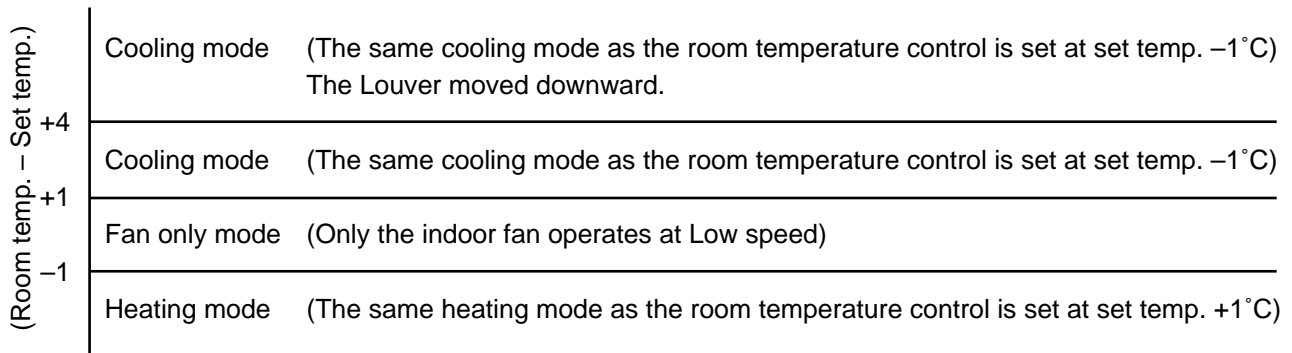

Fig. 7-5-1
- (1) One of the 3 modes, Cooling, Fan only and Heating is selected according to room temperature at which operation is to start, as shown in Fig. 7-5-1. The Fan mode will continue until room temperature reaches a level at which another mode is selected.
When the TEMPORARY button is pushed, the set temperature is fixed at 24°C and controlled in accordance with the chart shown in Fig. 7-5-1.